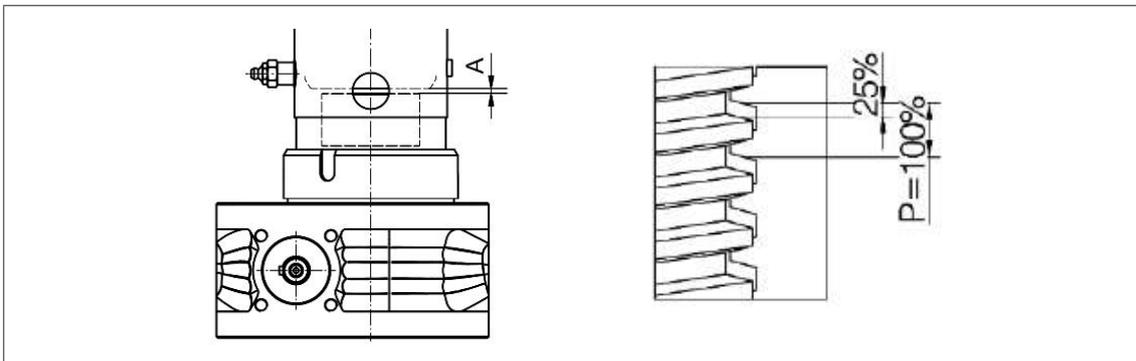

Fig. 16: Safety catch nut SIFA: Dimension „A“ for comparison during wear test
3. If a safety catch nut SIFA is fitted. Measure dimension „A“ and make a note of it (see Fig. 16). This dimension in new condition serves as a reference dimension in the further course of operation and is necessary to be able to assess wear later (see chapter 7.1.1., page 28).